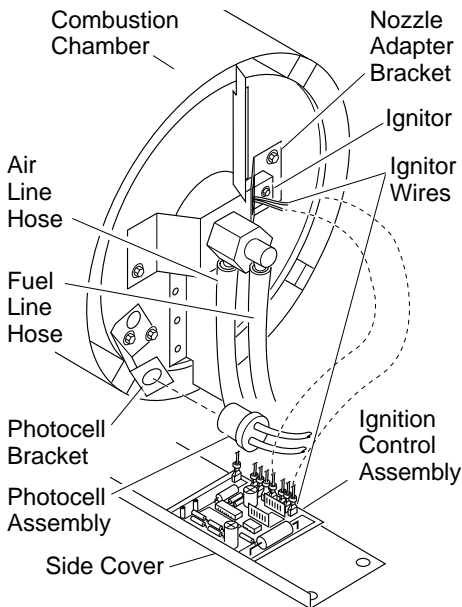

Figure 11 - Disconnecting Ignitor Wires from Ignition Control Assembly
4. Disconnect ignitor wires (black) from ignition control assembly (see Figure 11). Pull the ignitor wires up through the hole in the lower shell.
5. Disconnect fuel line hose and air line hose. Remove photocell from photocell bracket (see Figure 11).